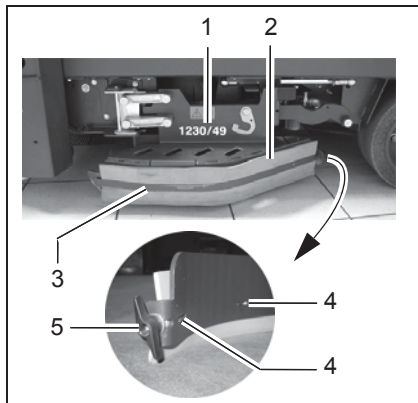

Fig. 37
The deflector (Fig. 37/1) must be fixed in its service position (refer to Section 2.3.1, Point 1).
1. Unscrew the wing nut (Fig. 37/5) at the end of the deflector.
2. Slide the clamping rail (Fig. 37/3) in the vehicle's driving direction (forwards) until the clamping rail hooks (Fig. 37/4) are freed and the clamping rail (Fig. 37/3) can be removed away from the vehicle.
3. Remove the old rubber deflector strips (Fig. 37/2).
4. Position the new rubber deflector strips (Fig. 37/2) in place.
5. Mount the clamping rail (Fig. 37/3) from the outside and slide back by hand so that the clamping rail hooks (Fig. 37/4) engage.
- Screw the wing nut (Fig. 37/5) on the thread at the end of the clamping rail (Fig. 37/3), thus tightening the clamping rail (Fig. 37/3).